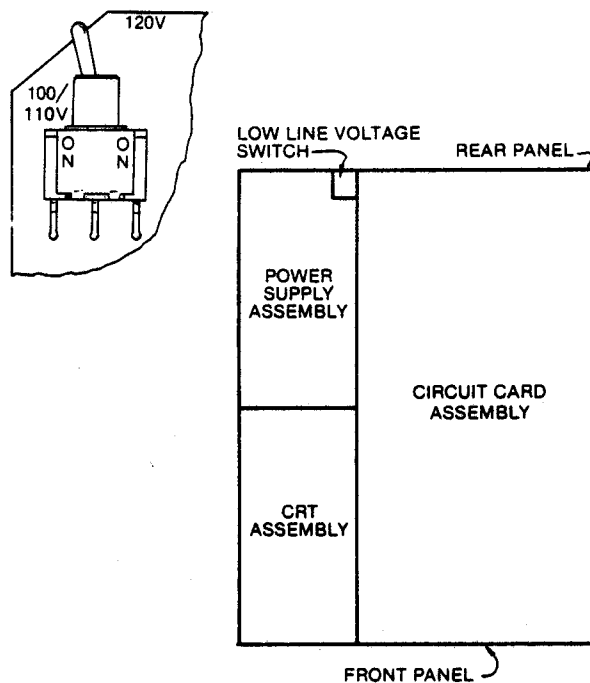

Figure 2-1. Low line voltage toggle switch and a simplified top view of the SD345 with the cover removed showing the location of the toggle switch.
- For operation in Japan or low line voltage operation, there is a toggle switch located in the power supply (Refer to Figure 2-1). For normal operation with both rear-panel slide switches either in the 115 Vac or 230 Vac positions, the toggle switch must be in the 120 V position. For operation in Japan the rear-panel slide switches must be in the 115 Vac position and the toggle switch must be in the 100/110V position. If low line voltage is experienced in countries other than Japan, this toggle switch can be utilized in the 100/110V position even if both rear-panel slide switches are in the 230 Vac position.